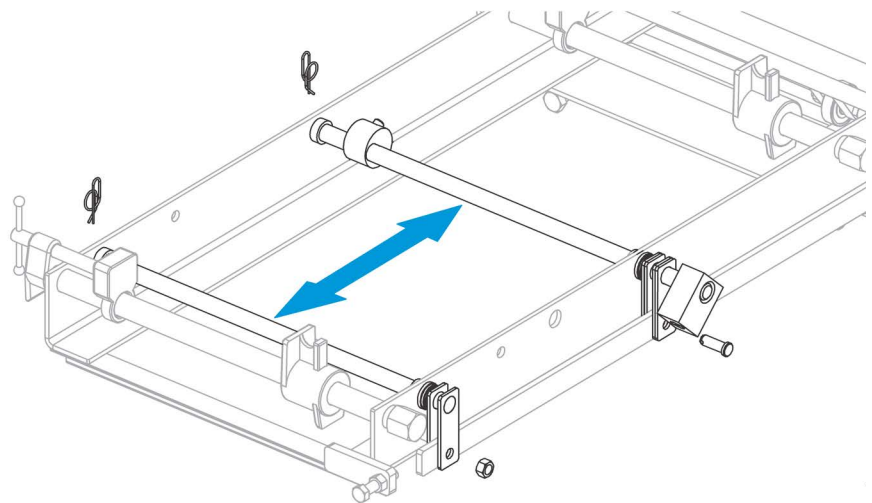

FIG. 3-2
3. Relocate the SLR shift handle to avoid interference with the rear bed rail. See FIG. 3-2